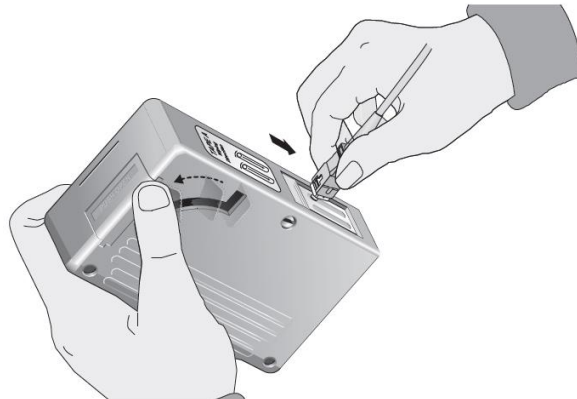

Figure 47. Rubbing the Ferrule Tip on the Cleaning Surface
1. With one hand, hold the cartridge cleaner and push the lever on the cleaning cartridge in the direction of the arrow to expose the cleaning surface, as shown in Figure 47.
2. Place the ferrule tip on the exposed cleaning surface and rub the ferrule in a downward direction, as shown in Figure 47.
1. Insert the swab into the adapter as shown in Figure 47 and rub the ferrule tip with the swab.